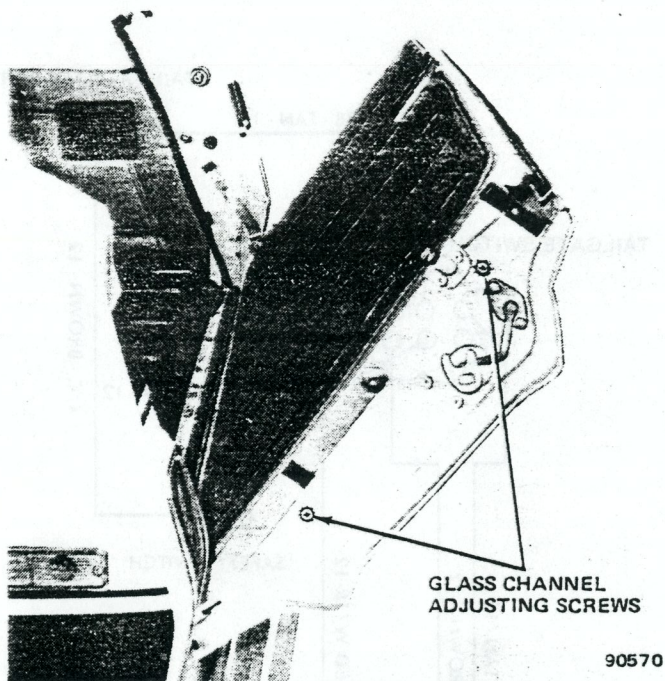

Fig. 3H-3 Glass Channel Adjustment
(1) If adjustment is necessary, loosen two cap-screws on either side panel of tailgate (fig. 3H-3).